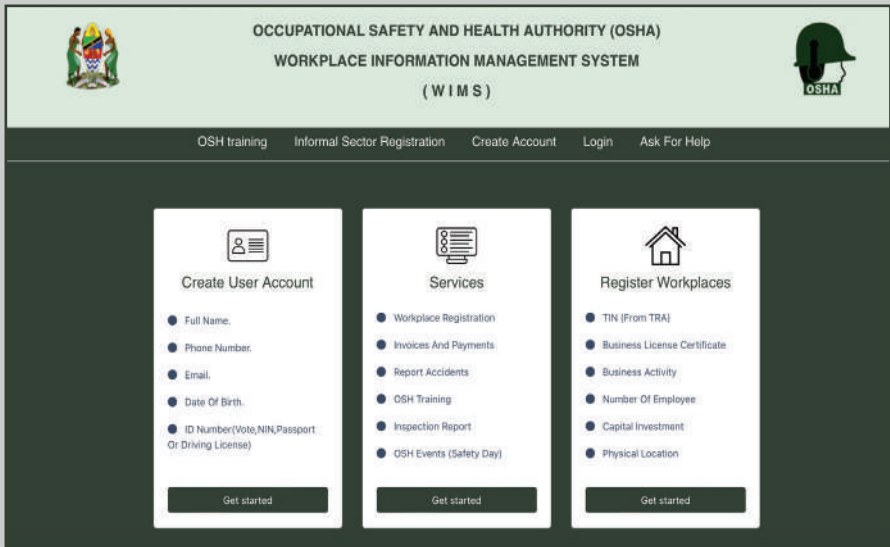

Figure 1: Landing page
- iii) When successful, the landing page of the system displays feature options including, OHS trainings, Informal sector Registration, Create WIMS Account and Login for registered users, as shown in the Figure 1 below.
- i) Click on Create Account link in the landing page in Figure 1 above;
- i) Click 'Login' link as shown on the landing page in Figure 1;